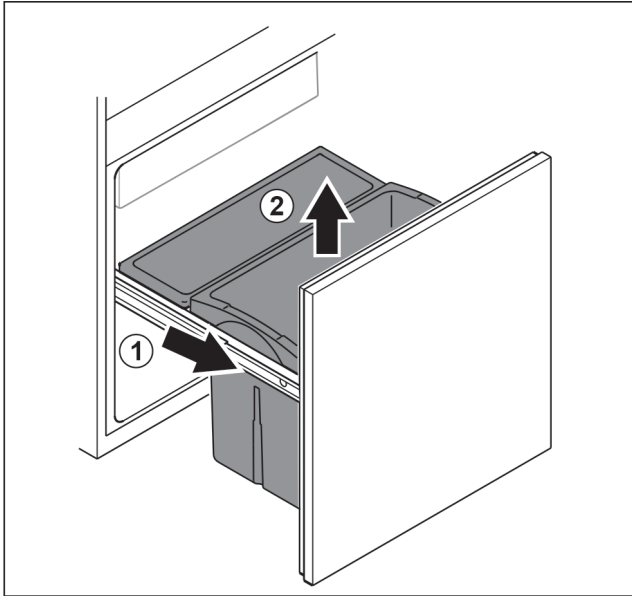

Fig. 160
- ▶ Remove the pull-out unit as far as it will go. Fig. 160 (1)
- ▶ Remove drawer upwards. Fig. 160 (2)